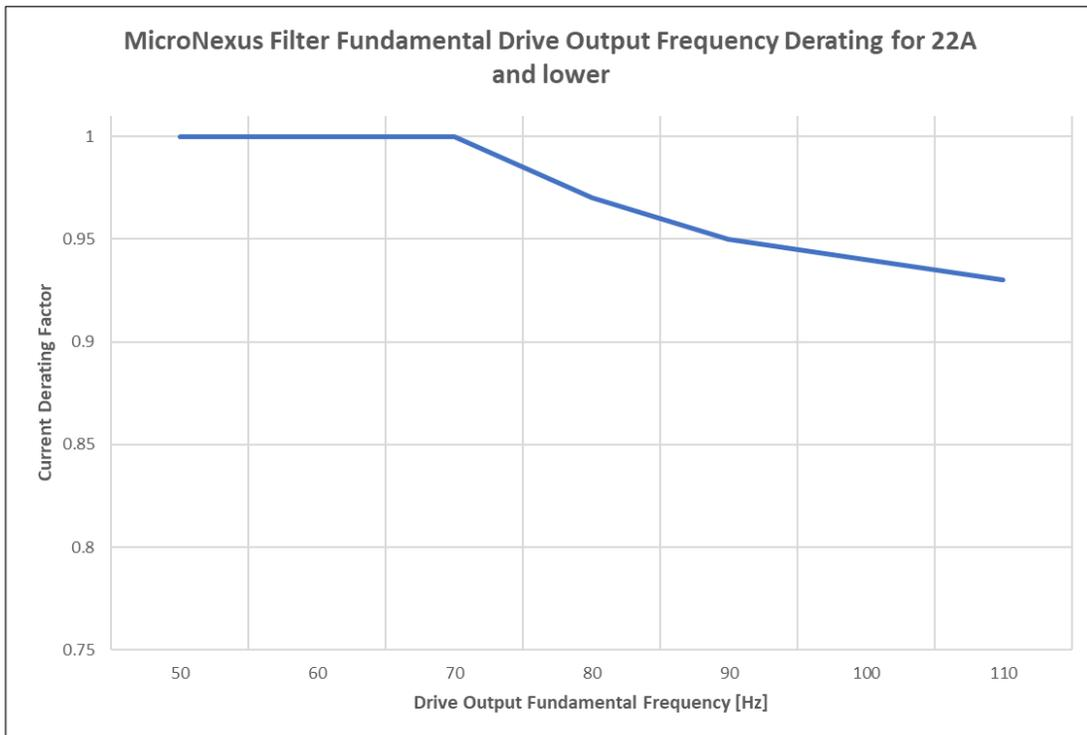

Figure 3-6: Motor Frequency Derating
- Drive Output Frequency:** Support for 6Hz to 75Hz without derating, >75Hz to 120Hz with derating. See Figure 3-6: Motor Frequency Derating (p9) for derating curve.